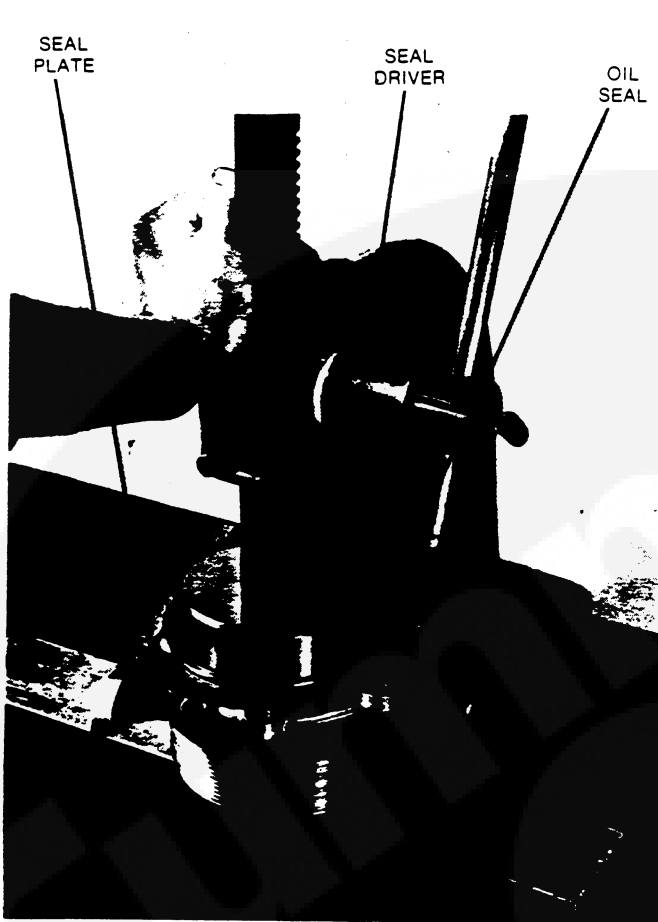

FIGURE 21. INSTALLING SEAL IN SEAL PLATE
2. Using oil seal driver, install a new seal with the rubber lip facing outward (open side of seal inward). See Figure 21. Drive new seal in flush with the machined surface of seal plate.